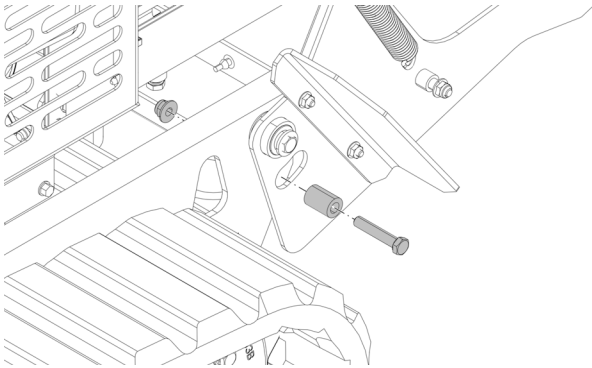

Figure 1-4. Installing Pivot Hardware
5. Install one (1) cap screw (P# 04001-45), one (1) spacer (P# 43572), and one (1) locknut (P# 04117-02) through the footplate assembly and into the left side of the machine frame. Repeat on the right side of the machine. See Figure 1-4.